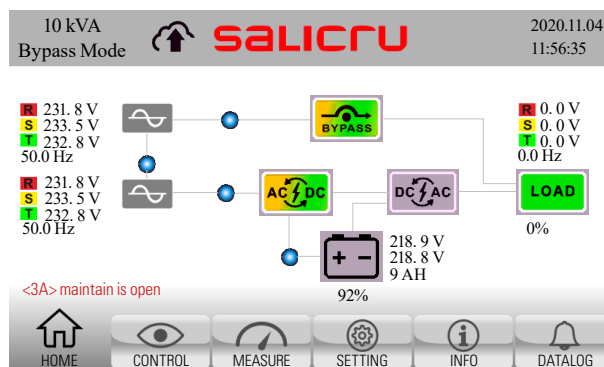

Fig. 58. Main screen of the control panel with manual bypass contact open warning.
4. The unit reports the current status via the main screen with the warning <3A>"maintain is open". See Fig. 58.
7. Check that the UPS supplies voltage simultaneously to the output via the maintenance bypass switch and the static bypass: check that the UPS is in bypass mode and the alarm <3A> shows "maintain is open", and the synoptic on the main screen of the control panel is as shown in Fig. 58.